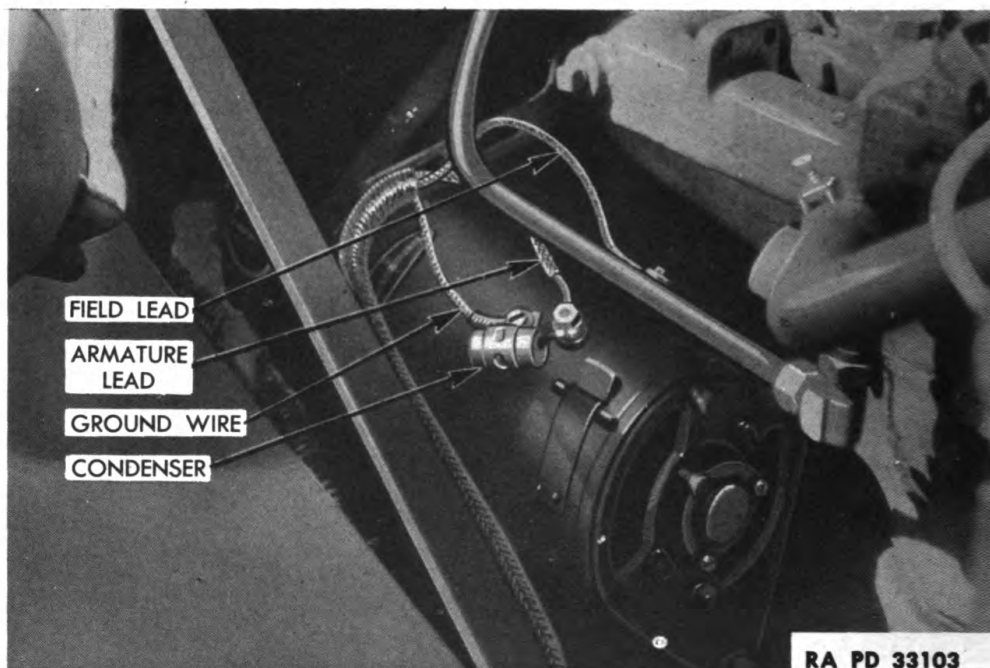
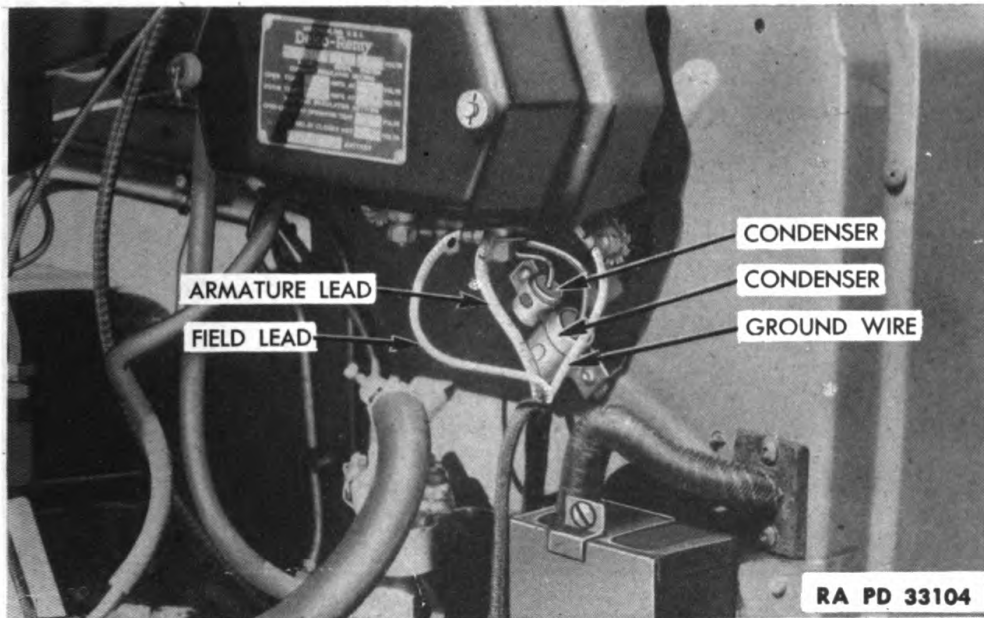

Figure 72—Generator Condenser
Figure 73—Regulator Condensers
(2) **SUPPRESSORS.** Suppressors are used as outlined in subparagraph **b** (2) above.
(3) **CONDENSERS.** The five condensers used on this system are installed at the following points: a generator condenser mounted on the outside of the generator housing (fig. 72), two regulator condensers located just below the generator regulator (fig. 73), an ignition condenser mounted on the lower half of the ignition shielding (fig. 74), and a starter condenser attached to the cranking motor housing (fig. 75).